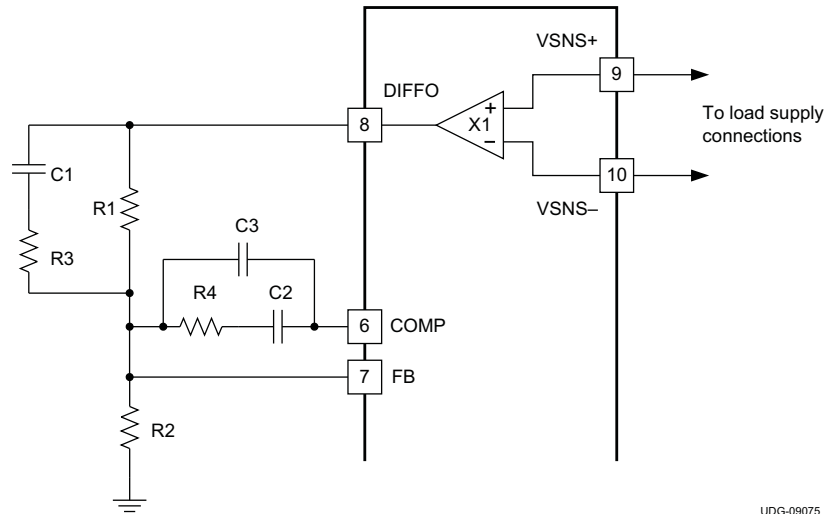

Figure 17. Setting the Output Voltage
Output voltage. The output voltage is set in a very similar to the way to a traditional analog controller using a voltage divider from the output to the feedback (FB) pin. The output voltage must be divided down to the nominal reference voltage of 600mV. Figure 17 shows the typical connections for the controller. The voltage at the load can be sensed using the unity gain differential voltage sense amplifier. This provides better load regulation for output voltages lower than 5V nominal (see electrical specifications for the maximum output voltage of the differential sense amplifier). For output voltages above this level, connect the output voltage directly to the junction of R1 and C1, leave DIFFO open do not connect the VSNS inputs to the output voltage. In this case, it is also recommended to connect VSNS+ to BP3 and VSNS- to GND. If desired the differential amplifier may also be used elsewhere in the overall system as a voltage buffer provided the electrical specifications are not exceeded
The components in Figure 17 that determine the nominal output voltage are R1 and R2. R1 is normally chosen to make the feedback compensation values (R3, R4, C1, C2 and C3) come close to readily available standard values. R2 is then calculated in Equation 1.
Output voltage adjustment. The nominal output voltage of the converter can be adjusted using the VOUT_TRIM command. See the VOUT_TRIM command description for the format of this command as used in the TPS40400. The adjustment range is $\pm 25\%$ from the nominal output voltage. The VOUT_TRIM command is typically used to trim the final output voltage of the converter without relying on high precision resistors being used in Figure 17. The resolution of the adjustment is 7 bits, with a resulting minimum step size of approximately 0.4%. Note that the output margining is accomplished using this same 7 bit structure so the total combined deviation from the nominal output for margining and VOUT_TRIM is still limited to $\pm 25\%$. Exceeding this range causes errors.
In order for the PMBus output voltage adjustments to function correctly, the VOUT_SCALE_LOOP parameter must be set properly. VOUT_SCALE_LOOP is a PMBus command (see *Supported PMBus Commands*) that tells the controller what the ratio of the voltage divider that sets the nominal output voltage is. The data for this command is the ratio of the divider that is used to set the output voltage. From Figure 17, VOUT_SCALE_LOOP parameter can be calculated using Equation 6.
- R2 and R1 are in consistent units from Figure 17
- (10)